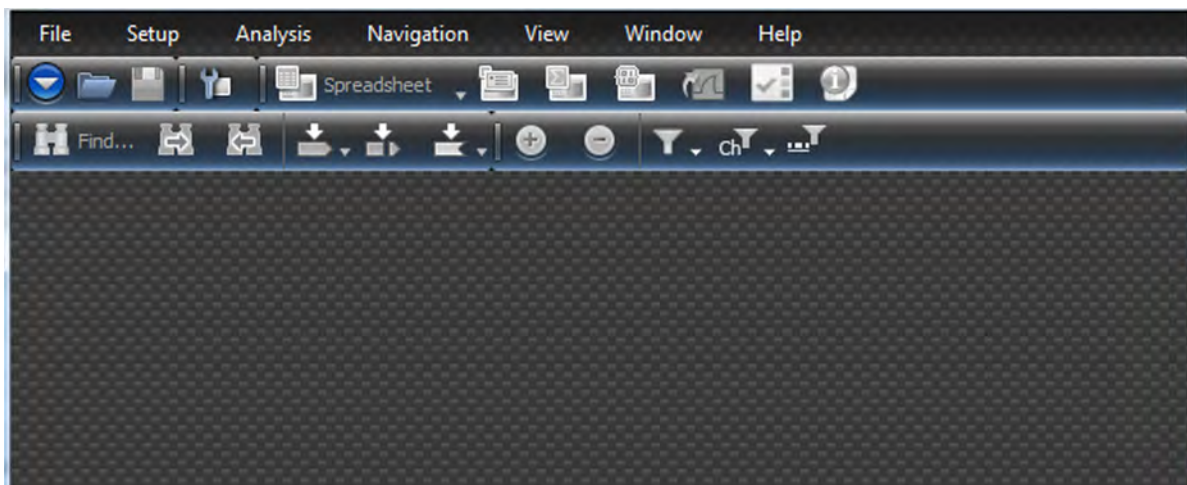

Figure 3.67: Trace and Project Deleted from Net Suite Protocol Dialog
This leaves only the Net Suite Protocol tool running. See Figure 3.67.
1. Launch the Net Protocol Suite tool (Figure 3.67).